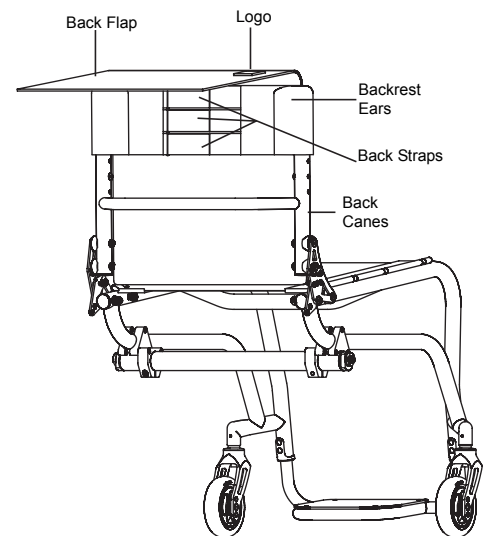

Figure 56
- Lift the back flap to expose the back straps/backrest ears (which are adjustable using Velcro). See Figure 56.